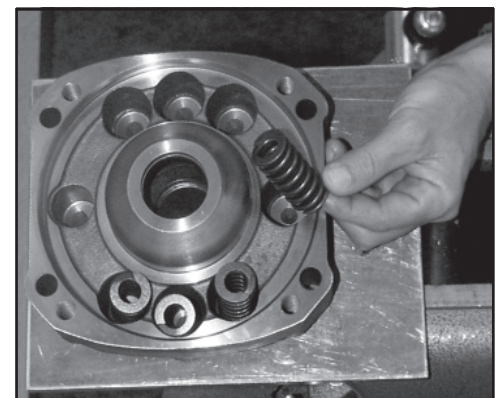

Figure D7
- 8. Remove springs from brake housing. *Note spacing of springs. Inspect springs and replace springs if damaged, broken, or discolored from heat. SEE FIGURE D7*